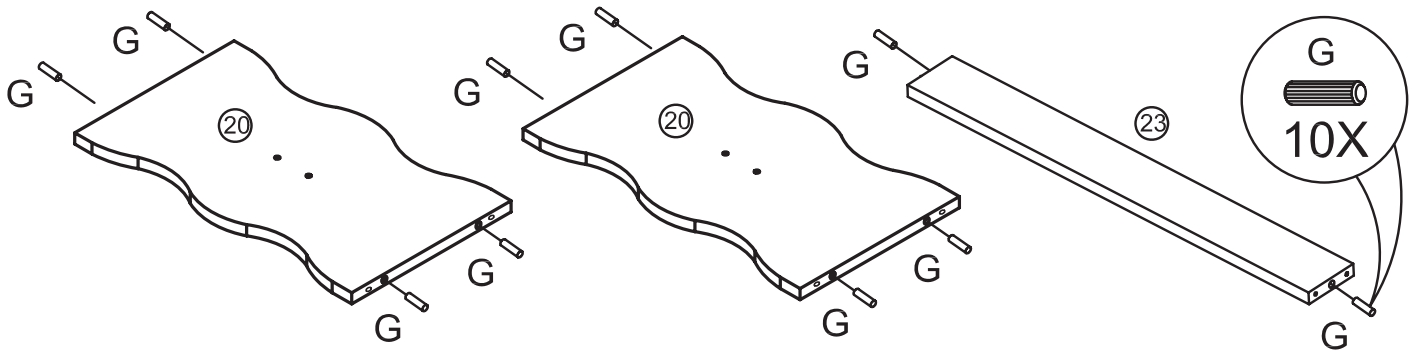

Figure 1
- a) Lay table Legs (20) and Crossbar (23) flat down on a material that does not scratch the parts.
- b) Insert Wood Dowels (G) into the designated holes at each end of the parts as shown in Figure 1